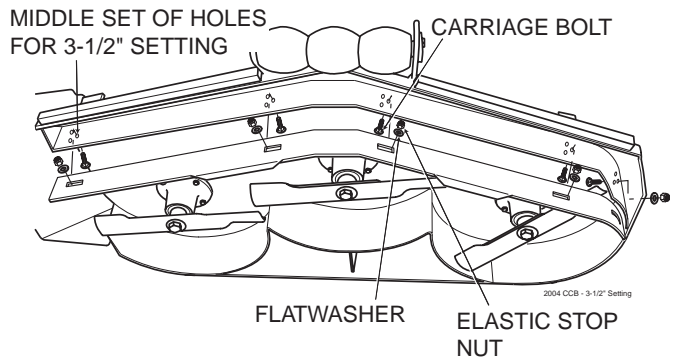

Figure 6-9. 3-1/2" Custom-Cut Baffle Position
- B. 3-1/2" Position (factory setting) - baffle is installed using the middle set of holes on the front baffle welded inside the cutter deck. (See Figure 6.9). For general purpose cutting, place the Custom-Cut Baffle in the 3-1/2" position. This gives the best mix of cutting performance in all types of grass.
3. Move the Custom-Cut Baffle to desired position. (See Figures 6.9 through 6.11 for position).